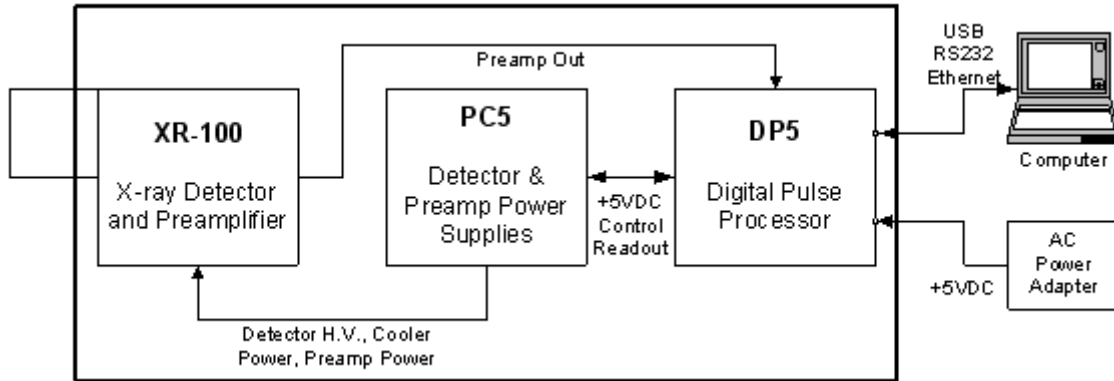

Figure 8-1. Block diagram of the X-123.
Figure 8-1 is a block diagram of the X-123. The key elements include (1) the detector, (2) the preamplifier, (3) the digital pulse processor, (4) the power supplies, (5) the packaging or enclosure for the system, and (6) the computer running software for instrument control, data acquisition, and data analysis. All X-ray spectroscopy systems contain these basic elements.
Amptek, Inc. provides a family of spectroscopy products, all built around the basic elements illustrated in Figure 8-1. In brief, all include a detector, a preamp, a DPP, and power supplies. There are several different detectors, optimized for different applications. This includes Si-PIN, SDD, and CdTe diodes, along with scintillators/PMT units. The components are also available in several packaging options: integrated in a single package (as in the X-123 or GammaRad), as a separated preamp and signal processor/power supply (XR100 and PX4), or as printed circuit boards which users integrate into their own products. The signal processor can also be used with other detectors, e.g. proportional counters. Amptek now provides two generations of the core digital processor, the DP4 and DP5, packaged into the PX4 and PX5 (PX5 will be available soon).